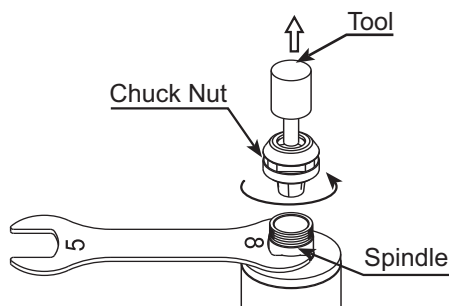

Fig. 21
- (1) Remove the tool according to the section 11 "CHANGING TOOLS" procedure above and remove chuck nut assembly. (Fig. 21)